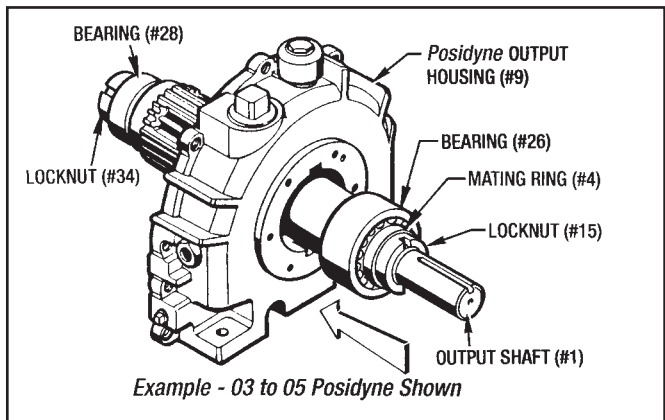

Figure 9.4 - Installing Output Shaft Sub-Assembly
1. Guide the Output Shaft Subassembly into the Output Housing (#9), as shown in *Figure 9.4*.